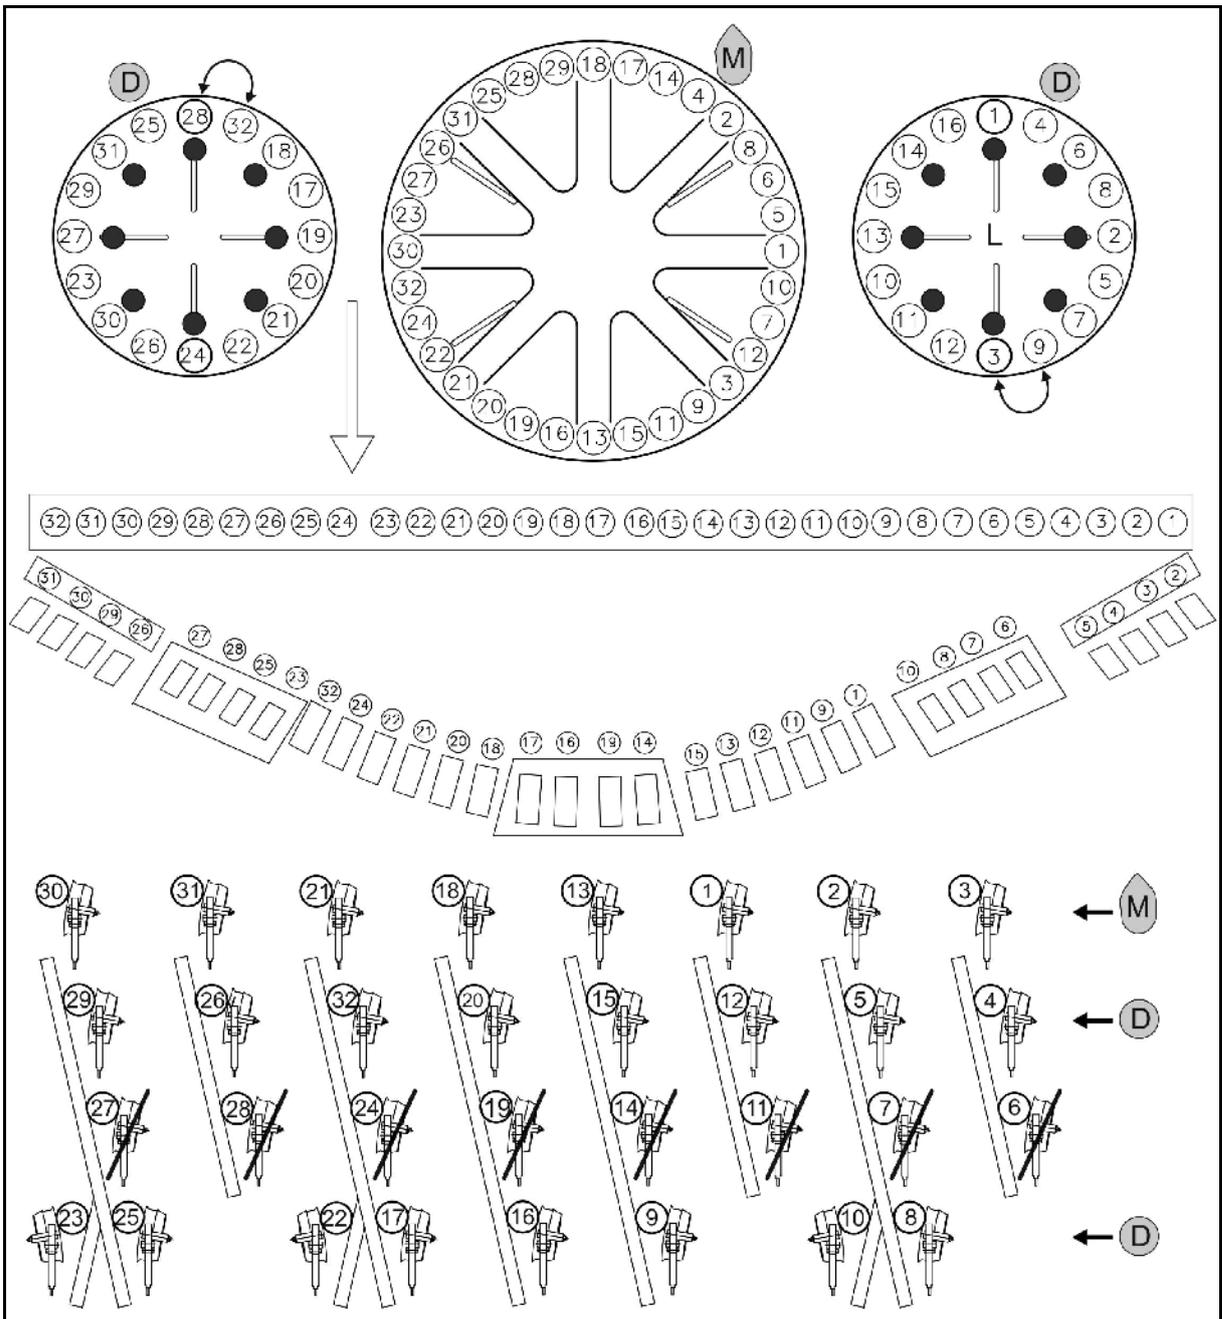

Fig. 49
- Maize M: Install the locking plates according to Fig. 49.
- Fertiliser D: Install the sealing plugs according to Fig. 49.